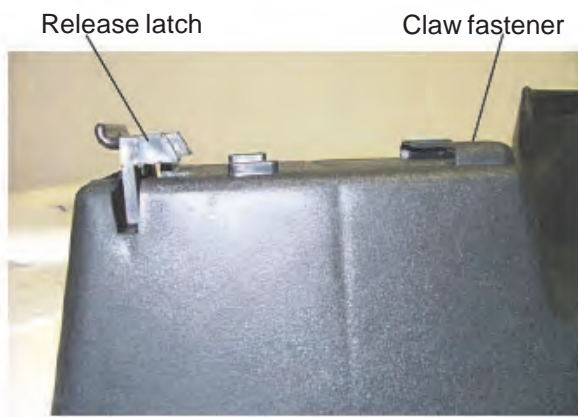
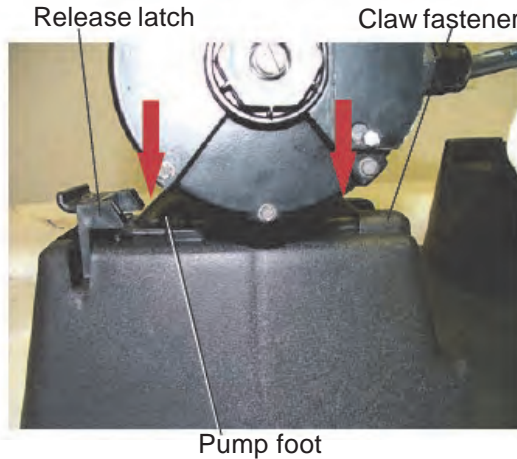
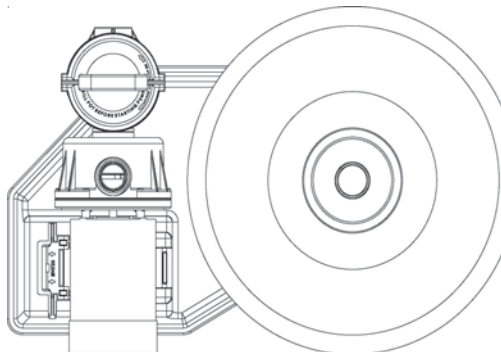

Figure 3.
Figure 4.
Figure 5.
- G. Slide the pump foot between the claw fasteners and the release latch. See Figure 3. Seat the pump by pushing down on it until the release latch clicks into place on the pump foot. See Figure 4. The pump should be positioned as indicated in Figure 5. Install the two #20 x 1-1/4" long lag bolts through the slots in the foot of the motor, into the two holes in the base near the release latch.